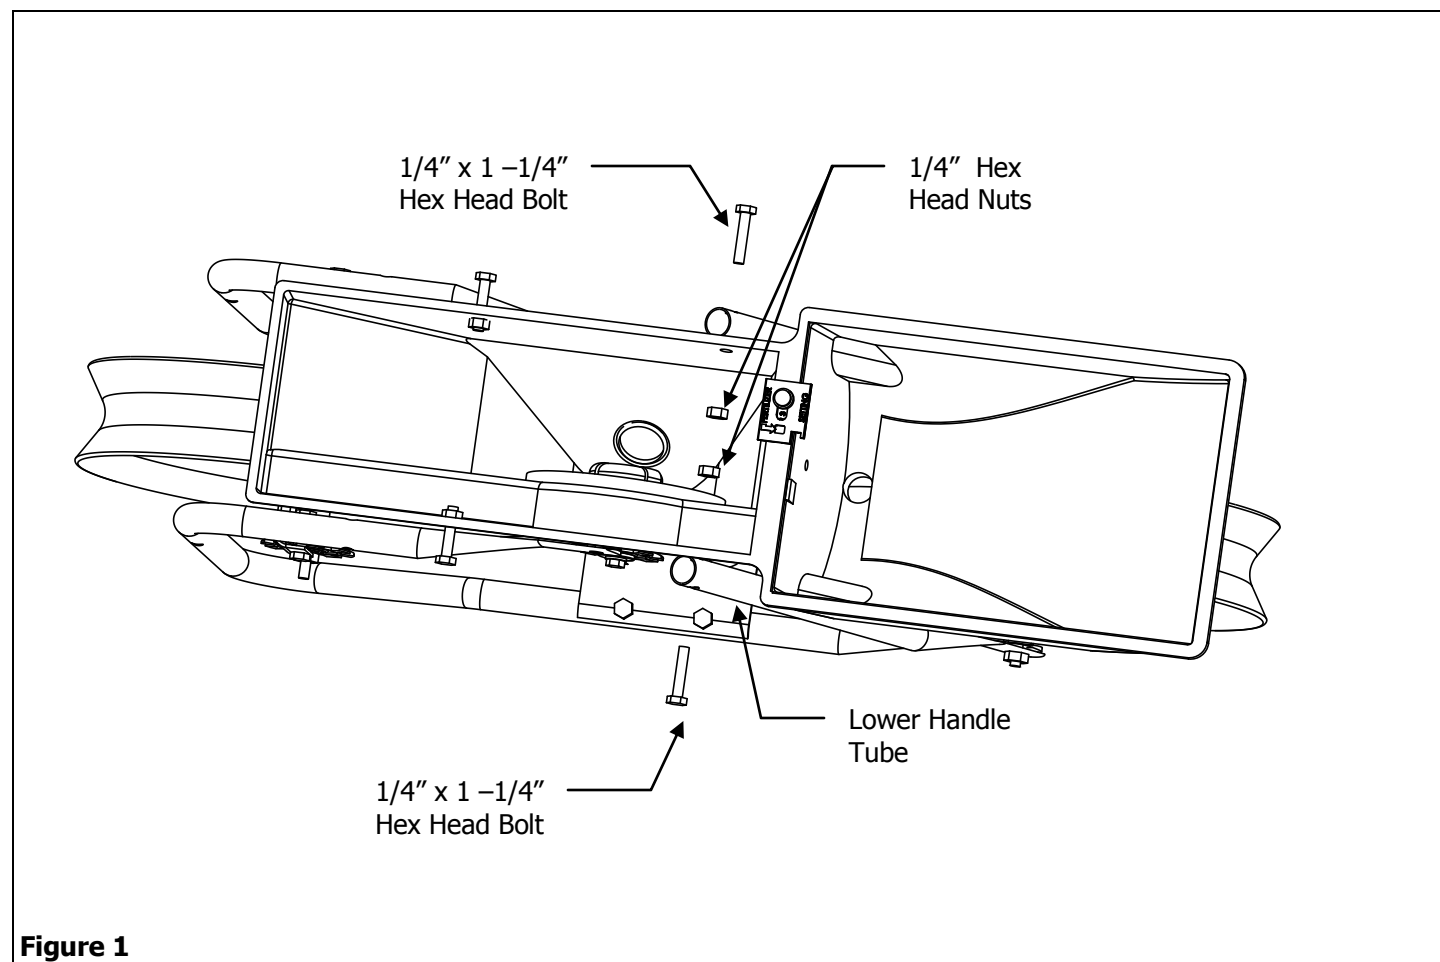

Figure 1
1. Remove two 1/4" x 1-1/4" Hex Head bolts and two 1/4" Hex Head Nuts from the top of the lower handle tubes. See Figure 1.